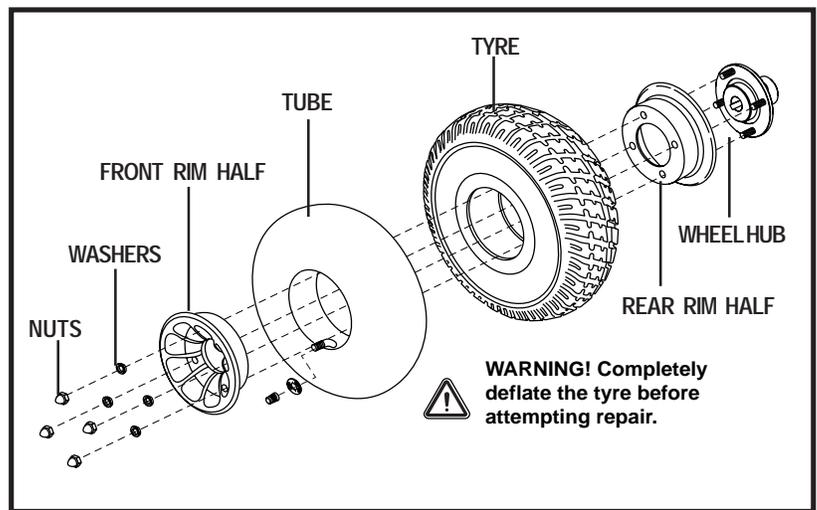

Figure 26. Jazzy 1103 Ultra Drive Wheel Disassembled
6. Remove the nuts and washers from the wheel hub to separate the rim halves. See figure 26.